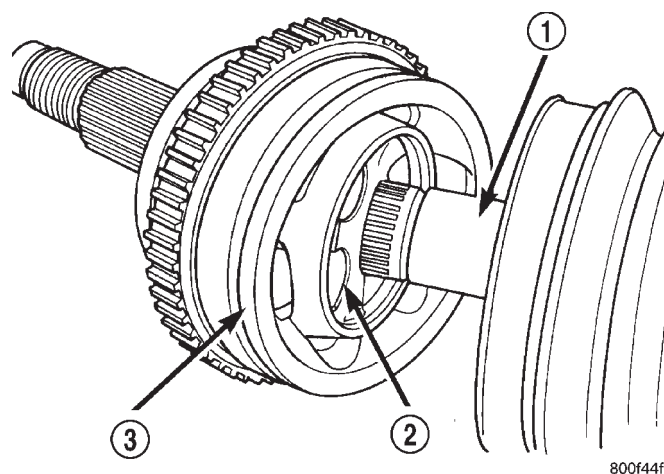

Fig. 46 Outer C/V Joint Correctly Installed on Interconnecting Shaft
(4) Outer C/V joint assembly must be installed on interconnecting shaft until cross of outer C/V joint assembly is seated against circlip on interconnecting shaft (Fig. 46).
(5) Distribute 1/2 the amount of grease provided in seal boot service package (**DO NOT USE ANY OTHER TYPE OF GREASE**) into outer C/V joint